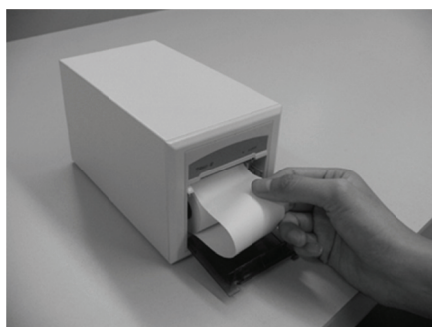

Figure 11-7 Installing Recorder Paper -3 Figure 11-8 Installing Recorder Paper -4
5. Push down the paper bail, shown in Figure 11-7.